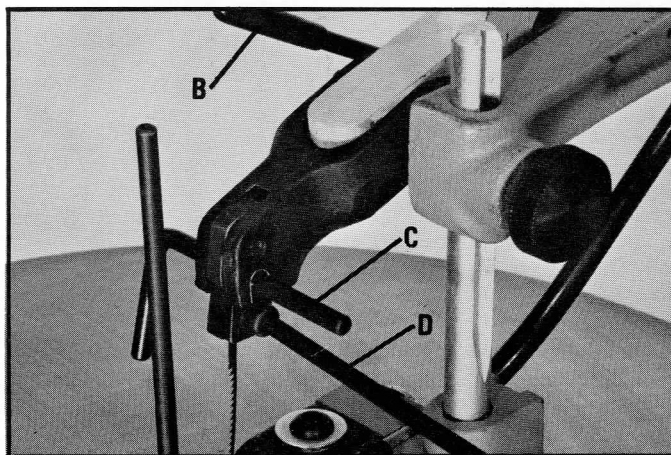

Fig. 19
7. Insert pin (C) in hole in upper blade holder and place blade in holder until back edge of blade contacts screw and tighten blade holder screw using wrench (D), as shown in Fig. 19.
8. Apply tension to the blade by moving tension lever (B) to the rear.